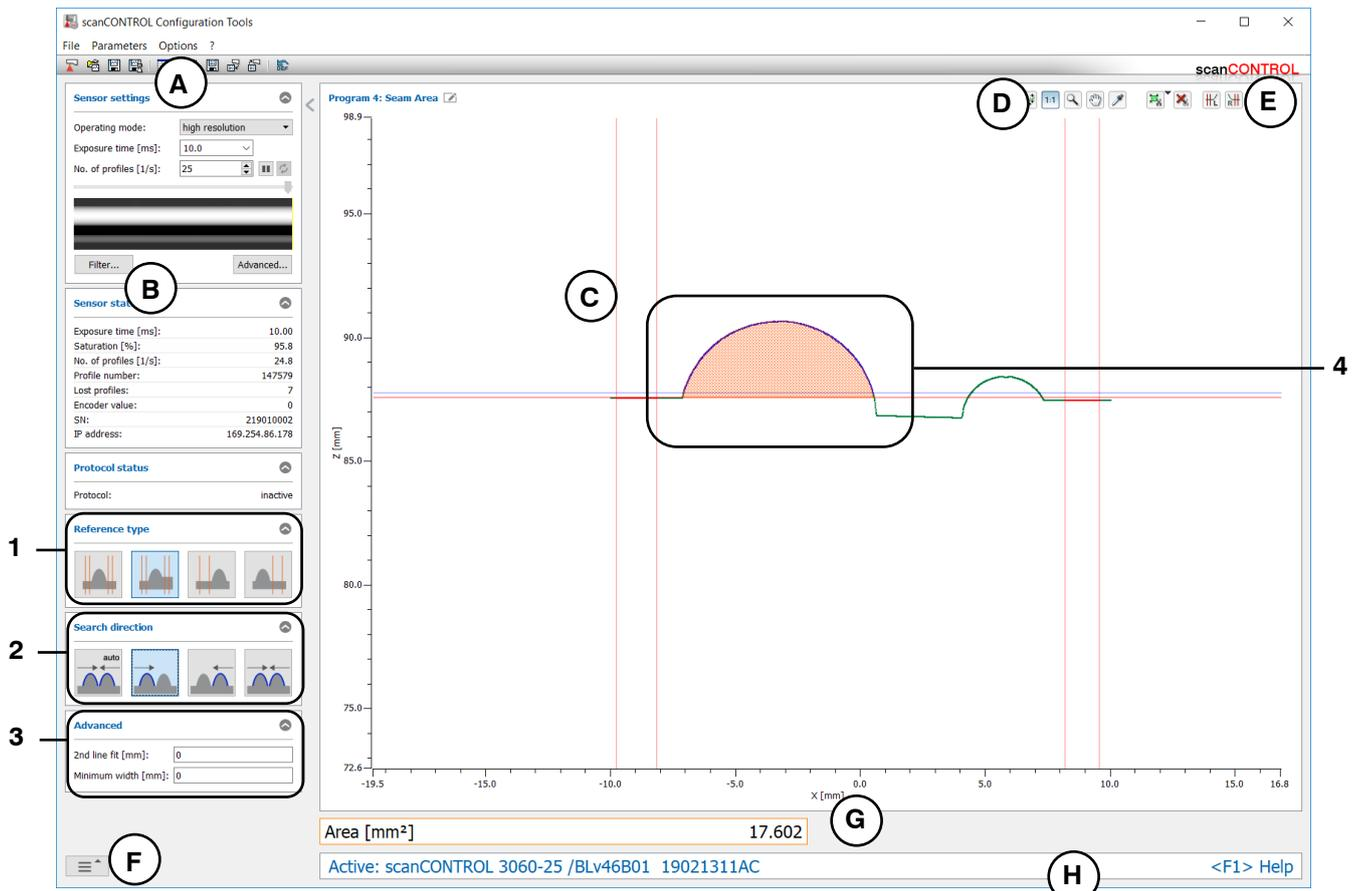

Fig. 4.30: "Seam Area" measuring program
- Define the type of heightening (see Fig. 4.30 and Chapter 3.13.1):